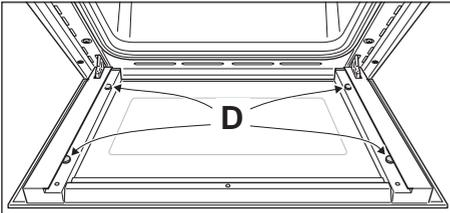

Fig. 4.45
IMPORTANT: It is advisable, while removing the glass, to keep pressed in position the four rubber pads "D" (fig. 4.45), by a finger, to avoid breakage or slippage of the rubber pads themselves.
- Check that the four rubber pads are in place ("D" in fig. 4.45).